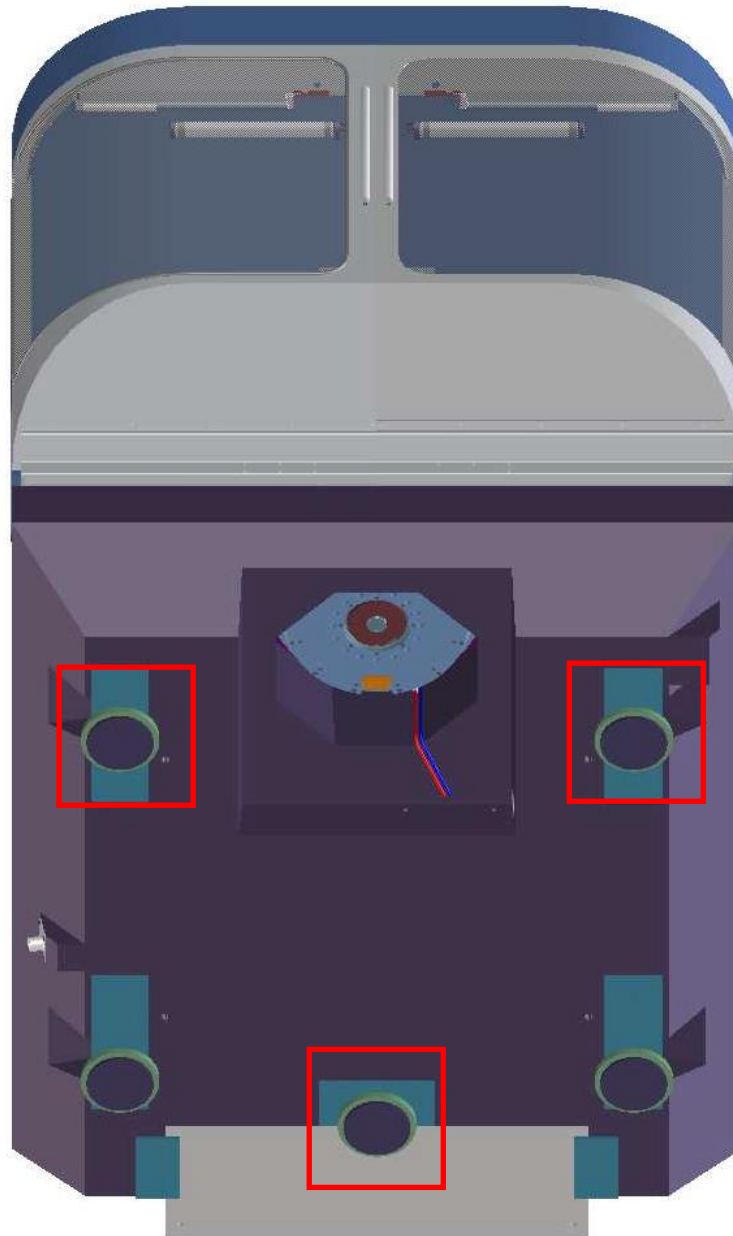

Figure 1 - Machine levelling feet (underside view)
- The three feet indicated are used to level the machine. When level, the two remaining feet are engaged to enhance machine stability. See Figure 1.